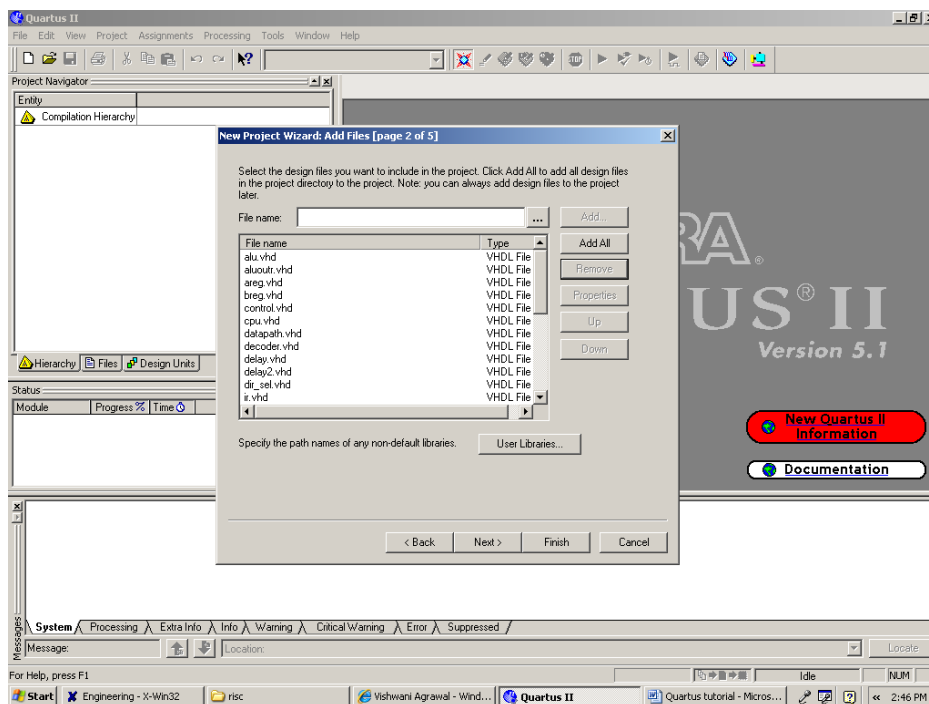

Fig. 5
3) Fill in your working directory name for the project. The project must have a name, which is usually the same as the top-level design entity that will be included in the project. After this click Next to get to the window as shown in Figure 5.